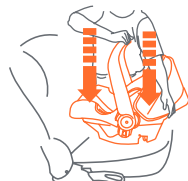

Fig. 47-1
- Place the Car Seat in the rear-facing position in a forward facing vehicle seat as shown in (Fig. 47-1). The Child must face the rear of the vehicle and Car Seat must be placed in a vehicle seat that faces forward.